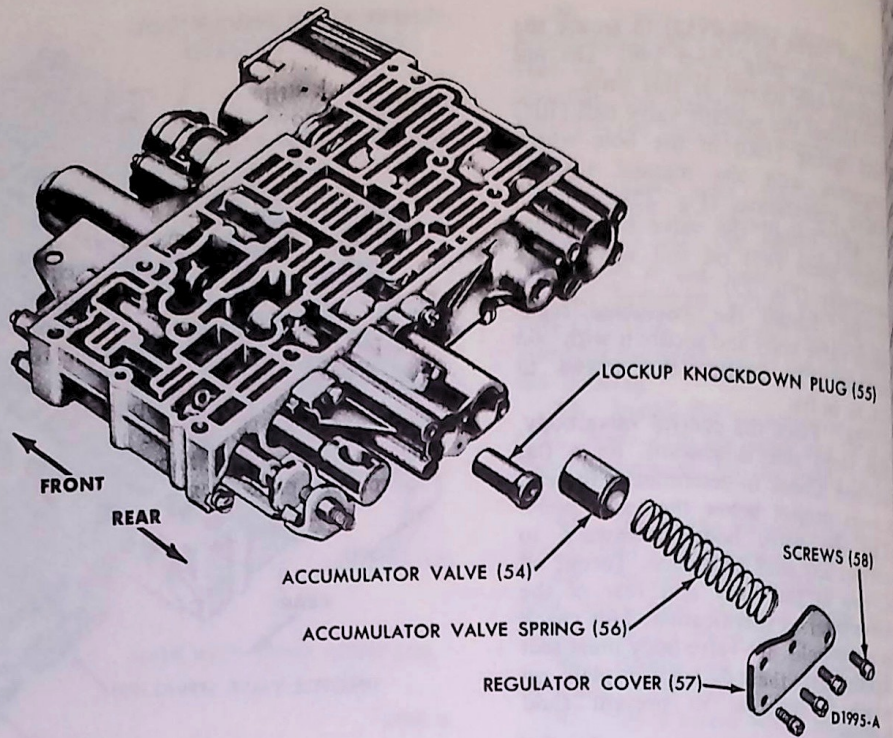
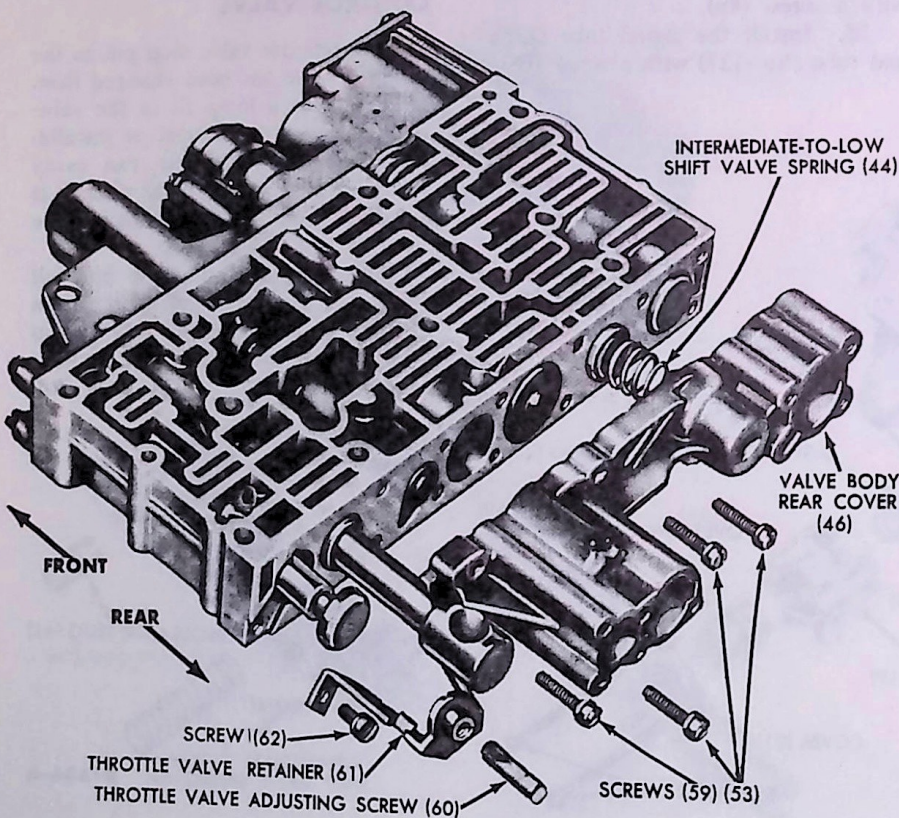
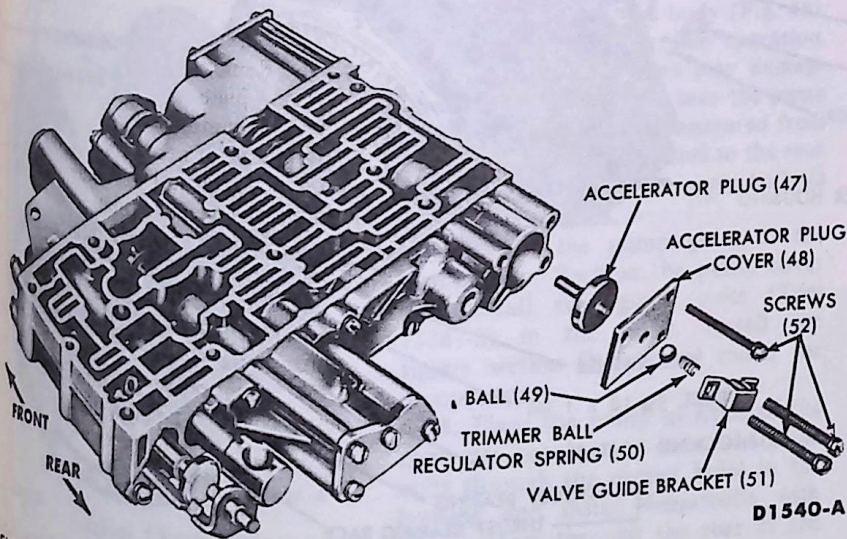

FIG. 37 Lockup Knockdown Plug and Accumulator Valve
FIG. 36 Control Valve Body Rear Cover—Rear View
FIG. 38 Accelerator Plug and Cover
38. Install the regulator plug (41) and intermediate-to-low shift valve spring (44) in the valve body rear cover (46) (Fig. 35), into the assembled valve body (Fig. 36).
39. Install the valve body rear cover (46) and its assembled components onto the assembled valve body (Fig. 36).
40. Install the three screws (53) which retain the valve body rear cover (46). Do not install the screw (59) that attaches the throttle valve retainer (61). Do not tighten the screws at this time.
41. Install the throttle valve retainer (61) and secure it with two screws (62) and (59). Do not tighten the screws at this time.
42. Install the lockup knockdown plug (55) (Fig. 37). Install the accelerator by inserting the small end of the plug into the housing.
43. Install the accumulator valve (54). Make sure the open end of the valve is outward, for the spring to fit into.
44. Install the accumulator valve spring (56) and regulator cover (57).
45. Secure the regulator cover (57) with four screws. Torque the screws (58) to 24-36 in-lbs.
46. Install the accelerator plug (47) and cover (48) (Fig. 38).
47. On a model which includes a ball (49), trimmer ball regulator spring (50) and the valve guide bracket (51), install these parts and secure them with two screws (52). Install a third screw (52) to secure the cover (48). Do not tighten the screws at this time.